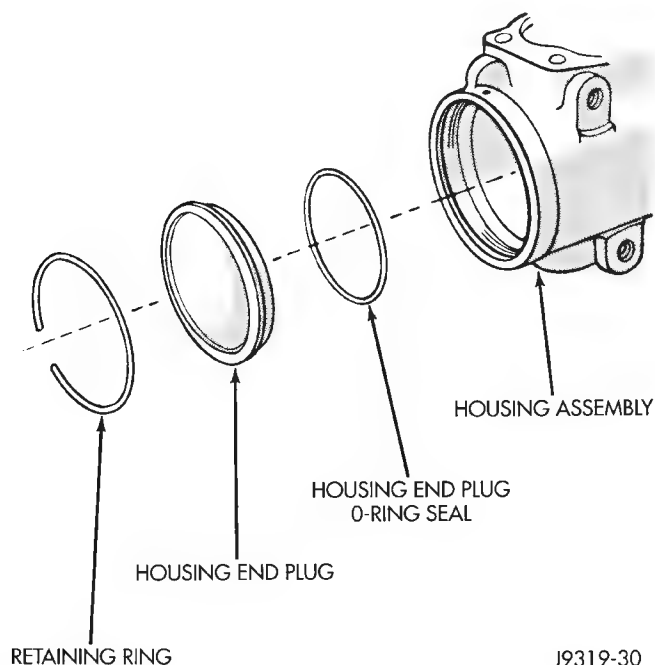

Fig. 17 End Plug Components
- (2) Rotate stub shaft slowly COUNTER-CLOCK-WISE to remove end plug out from housing (Fig. 17).
(3) Remove O-ring seal (Fig. 17).